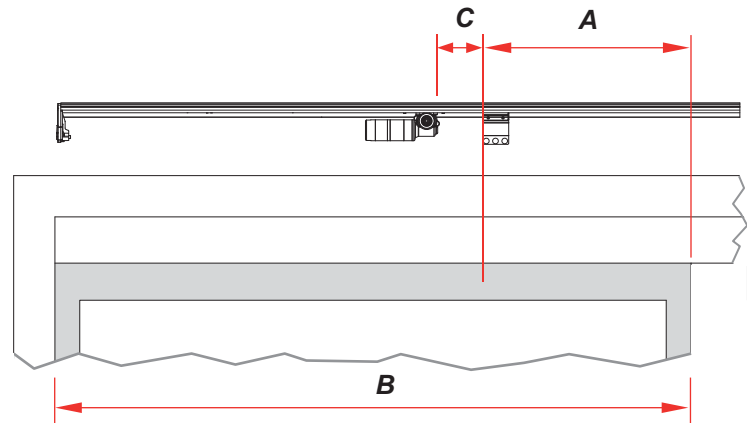
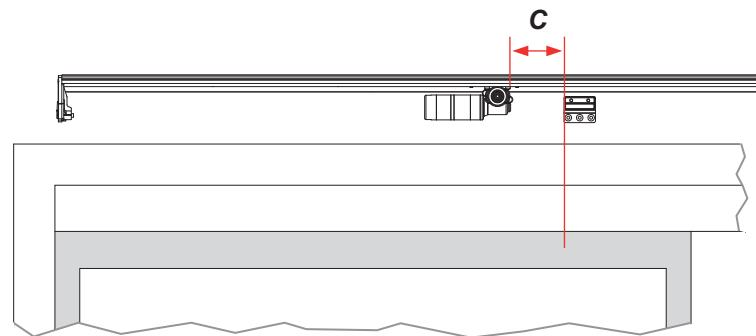

Figure 13: Bi-parting doors: motor and top bracket. The left side is shown with left door open.
Figure 14: Left-opening sliding door with motor and bottom bracket. The left side is shown with the sliding door open.
4. Mark the position of the bottom bracket on both the **base** and the **door** as in Figure 14.
- Mark the position of the top bracket on both the **base** and the **left-hand** sliding door as in Figure 13.
- Slide the motor along the base until it is **2"** (50 mm) from the mark you made on the **door** for the bottom bracket position (Figure 13 and Figure 14, where **C** = 2" or 50 mm).
- Slide the motor along the base until it is **2"** (50 mm) from the mark you made on the **door** for the bottom bracket position (Figure 14 and Figure 15, where **C** = 2" or 50 mm).